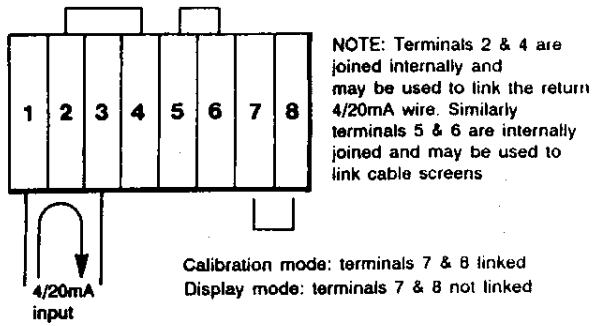

Fig 5 Terminal connections
- iii. Connect the loop wiring to the terminal block as shown in Figure 5. To ease installation the rear terminal block can be removed from the instrument by gently pulling.